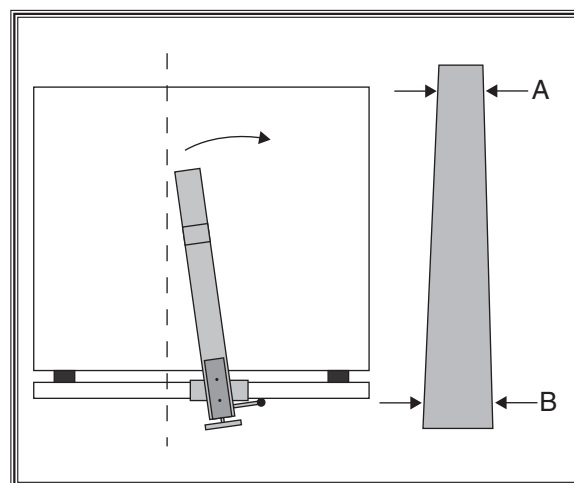

Figure 32. Adjusting fence to the right.
- If end B (**Figure 32**) is wider than end A, then the tip of the fence needs to be adjusted to the *right* to make the fence parallel to the blade.